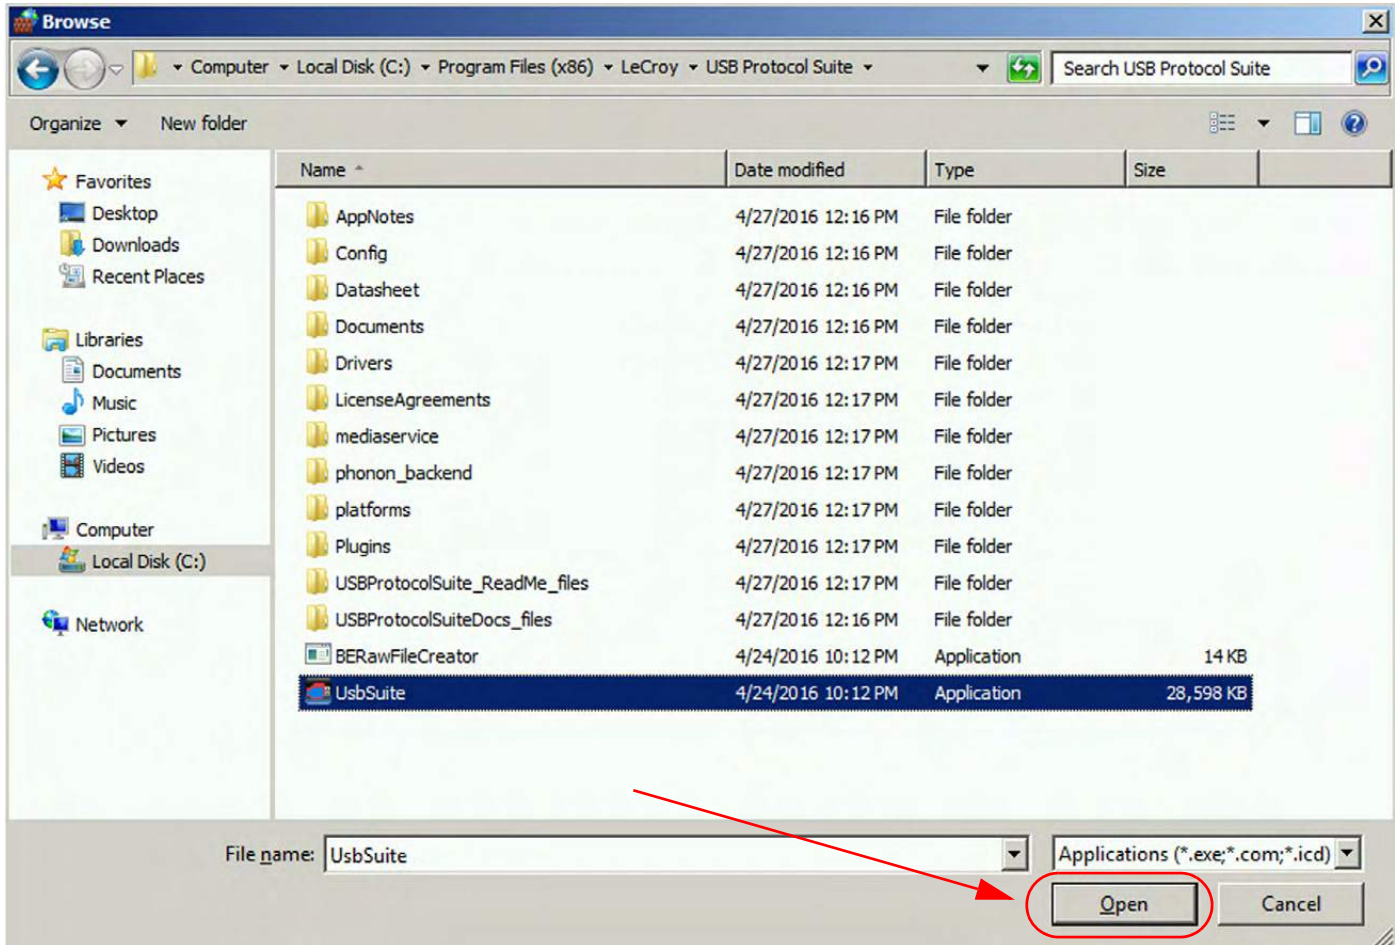

Figure 3.15: Windows 2008: Browse to Find Application -> USB Protocol Suite
- Navigate to the location of the installation directory for the USB Protocol Suite you have installed. The Teledyne LeCroy USB Protocol Suite is typically installed on your machine in the C:\Program Files (x86)\LeCroy\USB Protocol Suite directory. See Figure 3.15.